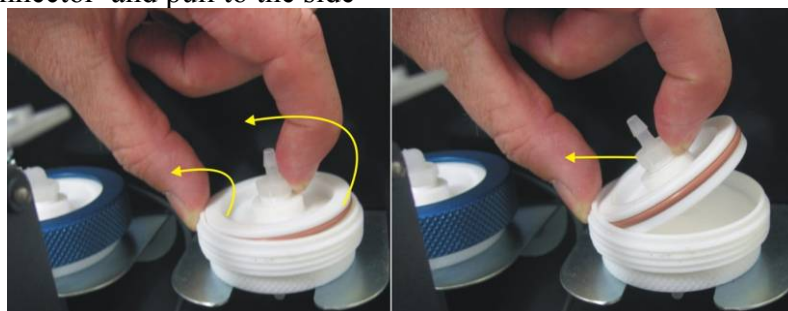

Figure 18 Removing plunger
2. Slide open (Figure 18) to access the particulate filter (located in front right hand corner)